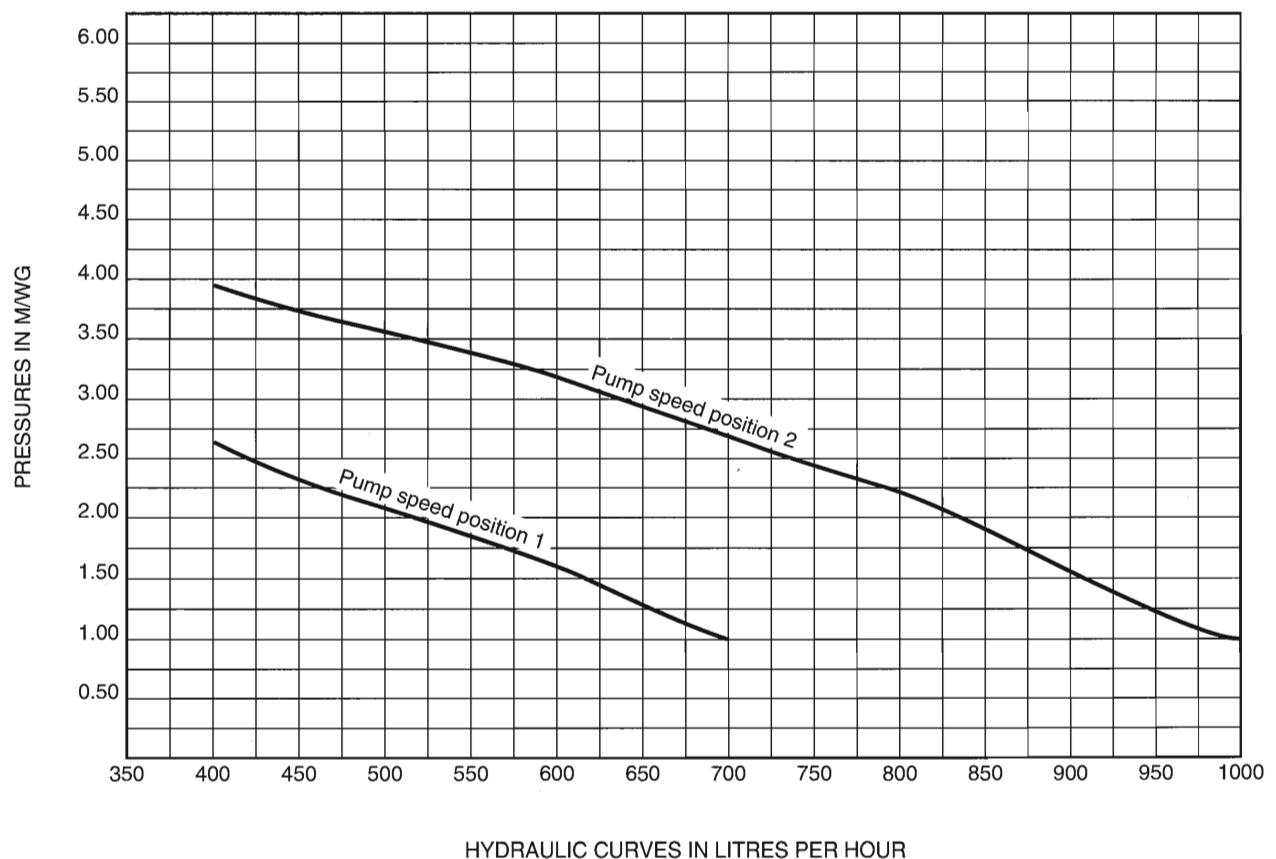

Figure 11
1. Set the pump rate. The circulating has flow settings selected by a rotary switch on the left-hand side of the pump. Switch to the desired position to suit the system flow/resistance. Figure 11 shows the flow resistance curve for each setting.